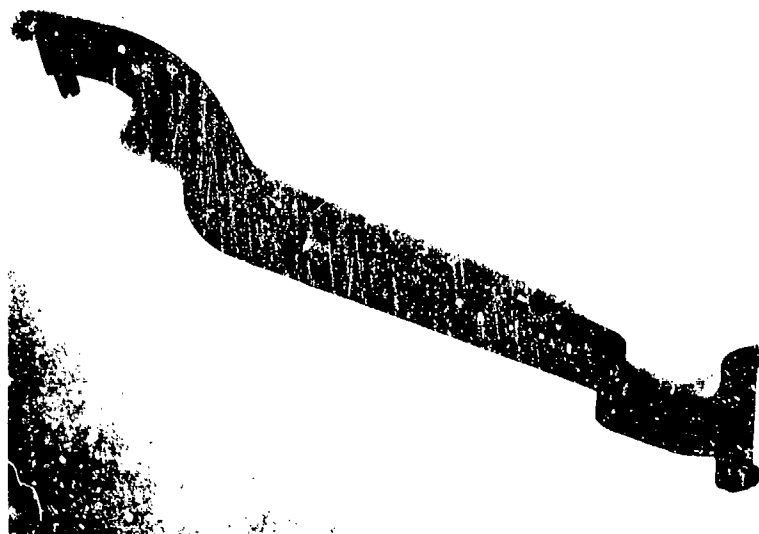

Figure 11-14. Fuze wrench M16.
*c. Delay.* A delay fuze is designed to allow the fuze and projectile to penetrate the target prior to the complete detonation of the bursting charge. This action requires a steel-hardened fuze to withstand this penetration. The concrete-piercing CP M78 delay PD fuze is a single-action, impact fuze that requires no setting and is capable of delay action only. An M25 booster is used with the CP M78 fuze to insure complete detonation of the bursting charge. The black powder delay element gives a delay of 0.025 second. This fuze and booster can be used to convert a high-explosive round to a concrete-piercing round, and are installed in the projectile by the cannoneer with a special fuze wrench, the M16 (fig 11-14).